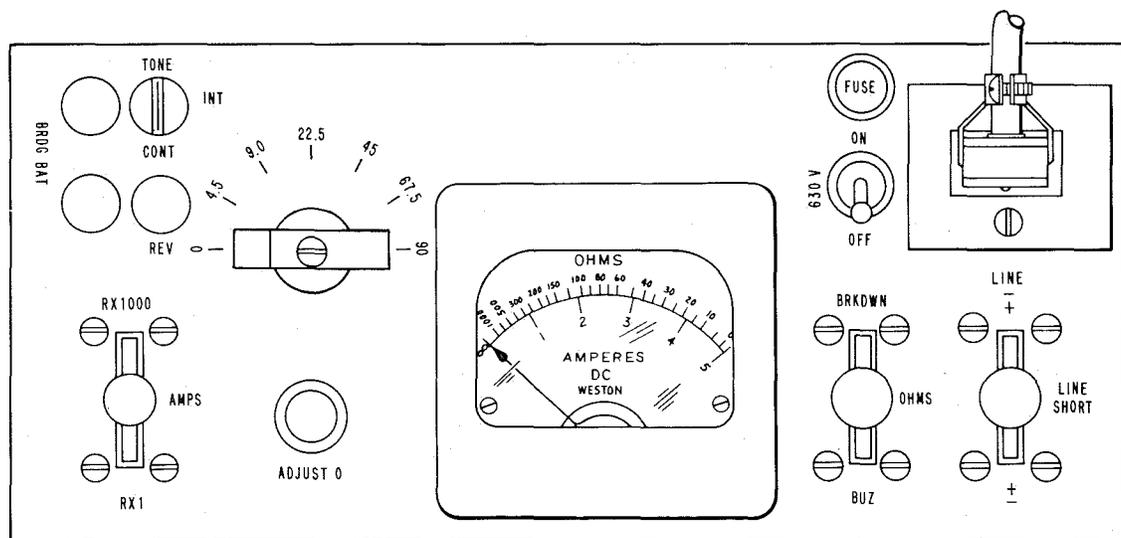

Fig. 16—Making Breakdown
7.09 Make the breakdown tests as follows: (See Fig. 16 for controls.)